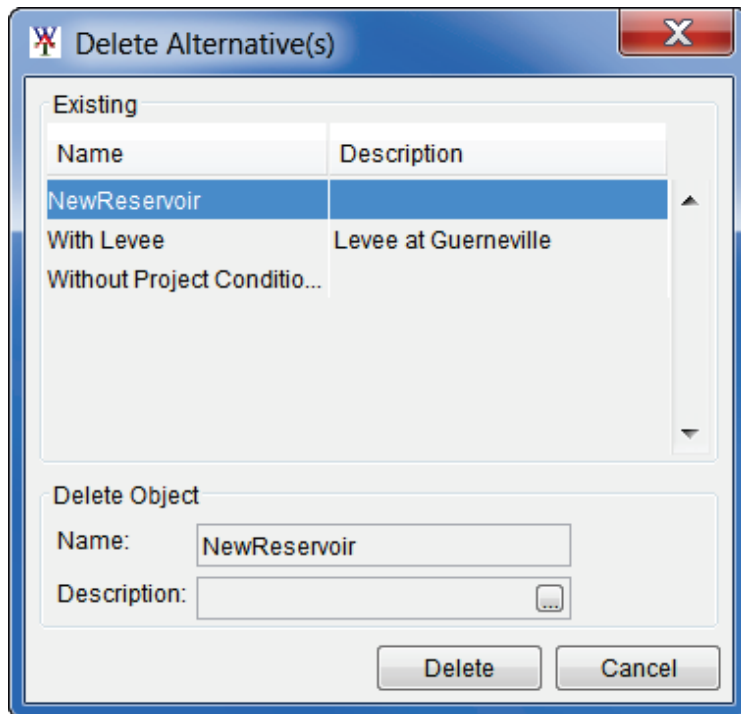
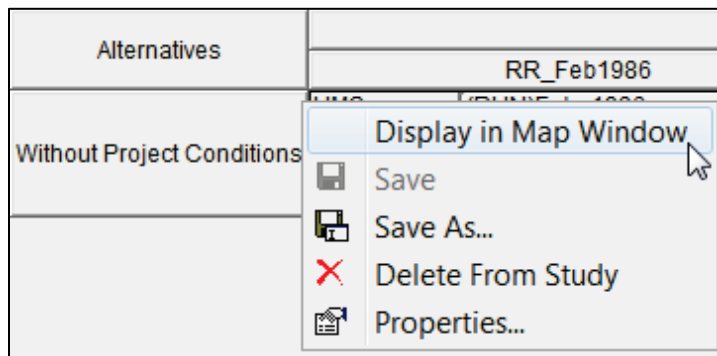

**Figure 10.9** Alternative and Simulation Manager – Additional Alternatives
**Figure 10.10** Delete Alternative(s) Dialog Box
9. The alternative name will now appear in the table on the **Alternative and Simulation Manager**, under the **Alternatives** column header (Figure 10.9).
1. From the **Alternative and Simulation Manager** (Figure 10.9), right-click on the **Alternatives** header in the table, from the shortcut menu (Figure 10.4); or from the **File** menu, point to **Alternatives**, click **Delete from Study**, the **Delete Alternative(s)** dialog box will open (Figure 10.10).
2. From the **Existing** list select alternative(s), in the **Delete Object** box (Figure 10.10) the name(s) and descriptions of the selected alternative(s) will appear.
3. Click **Delete**, a warning message will appear asking the user if the user really wants to delete the selected alternative(s). Click **Yes**, the warning message will close, the **Delete Alternative(s)** dialog box will close (Figure 10.10), and the selected alternative(s) will no longer appear under the **Alternatives** column of the **Alternative and Simulation Manager** (Figure 10.9).
The individual alternative shortcut menu (Figure 10.11) is available from the **Alternative and Simulation Manager** (Figure 10.9), by right-clicking on an alternative name in the table. This shortcut menu allows the user to view the selected alternative in a map window, save, make a copy, delete from the study, and view the properties of the alternative. The following sections provide further details.
1. From the **Alternative and Simulation Manager** (Figure 10.9), right-click on an alternative in the table. From the individual alternative shortcut menu (Figure 10.11), click **Display in Map Window**.
4. The alternative name will now appear in the table on the **Alternative and Simulation Manager**, under the **Alternatives** column header (Figure 10.9).
To delete an alternative, right-click on an alternative in the table on the **Alternative and Simulation Manager** (Figure 10.9), from the individual alternative shortcut menu (Figure 10.11), click **Delete From Study**. A **Confirm Manager Delete** warning message will appear asking the user if you really want to delete the selected alternative. Click **Yes**, the warning message will close. The alternative will no longer appear on the table in the **Alternative and Simulation Manager** (Figure 10.9).
From the toolbar of the **Alternative and Simulation Manager** (Figure 10.9), the user can create an alternative. Click , the **Create New Alternative** dialog box will open (Figure 10.5). The steps for creating an alternative are the same as in **Creating an Alternative** Section 10.3.1.
From the **Menu Bar** of the **Alternative and Simulation Manager** (Figure 10.9), the user can create and delete alternatives (Sections 10.3.1 and 10.3.2).